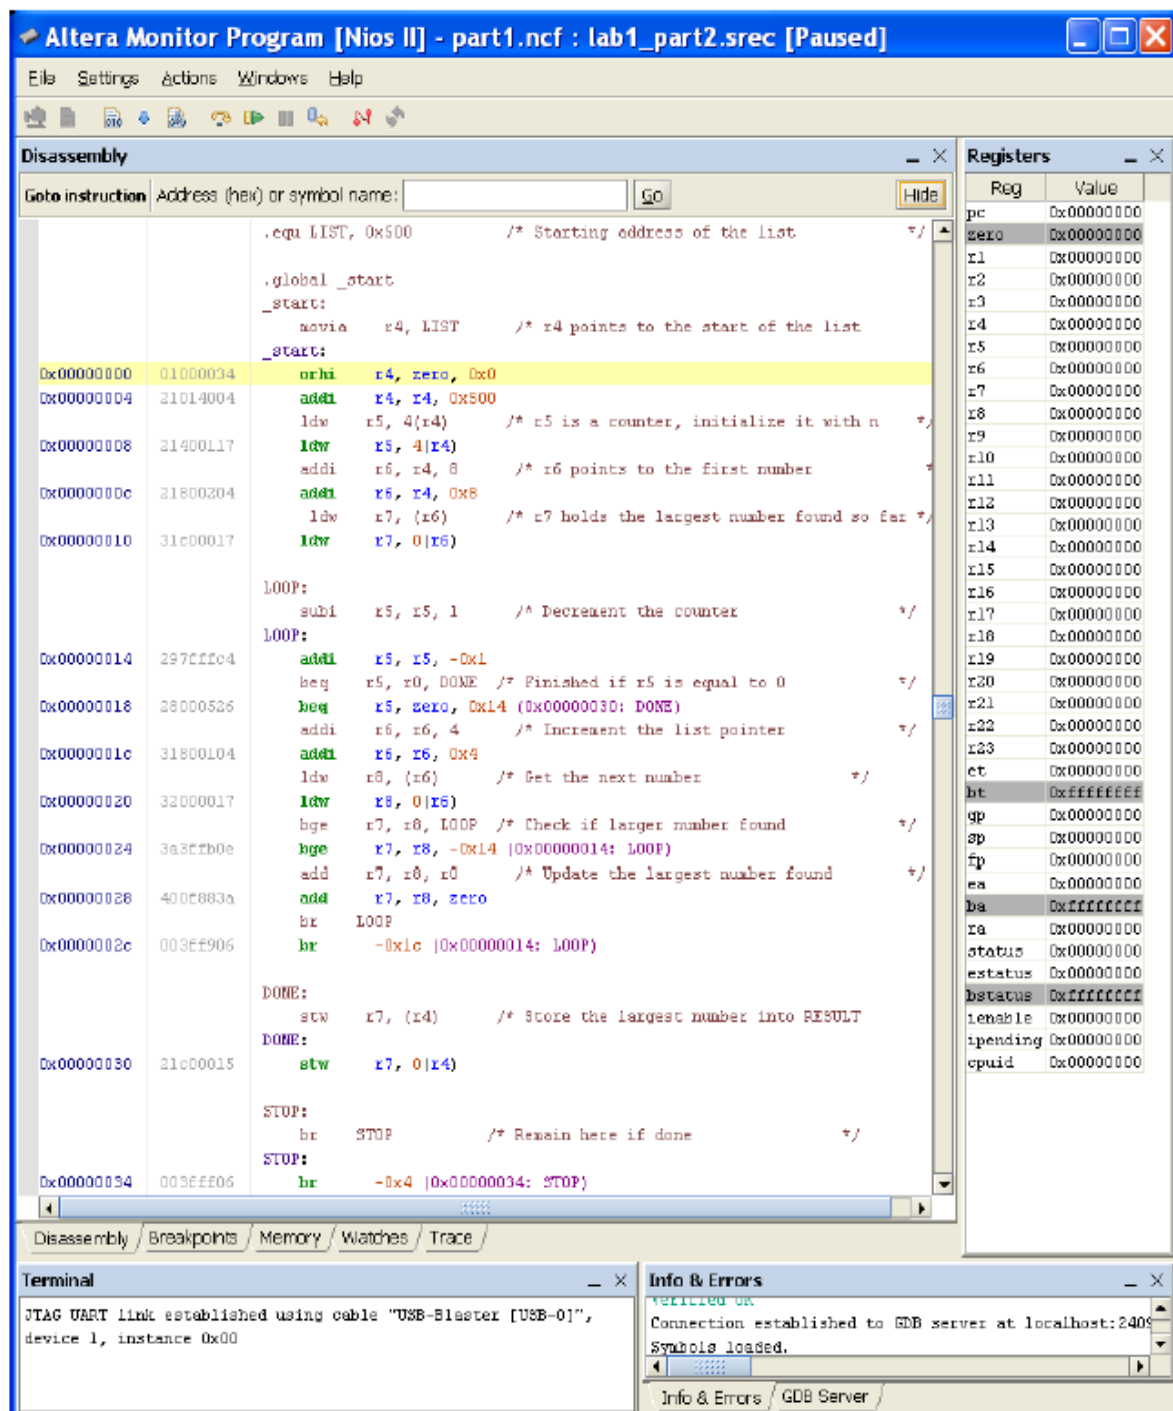

Figure 15: The disassembled view of the program that was shown above in Figure 10.
6. The Monitor Program will display the disassembled view of the code loaded in the memory, as indicated in Figure 15. Note that the pseudoinstruction `movia` in the original program has been replaced with two machine instructions, `orhi` and `addi`, which load the 32-bit address `LIST` into register `r4` in two 16-bit parts (because an immediate operand value is restricted to 16 bits). Examine the disassembled code to see the difference in comparison with the original source program. Make sure that you understand the meaning of each instruction. Observe also that your program was loaded into memory locations with
7. Run the program. When the program is running, you will not be able to see any changes such as the contents of registers or memory locations in the monitor windows, because the monitor program cannot communicate with the processor system on the DE0-Nano board. But, if you stop the program the present state of these components will be displayed. Do so and observe that the program has stopped executing at the last branch instruction which is loaded in the memory location 0x34. Note that the largest number found in the sample list is 8 as indicated by the contents of register **r7**. This value is also stored in the memory location 0x500, which can be seen by opening the *Memory tab* of the monitor window (in Figure 15).